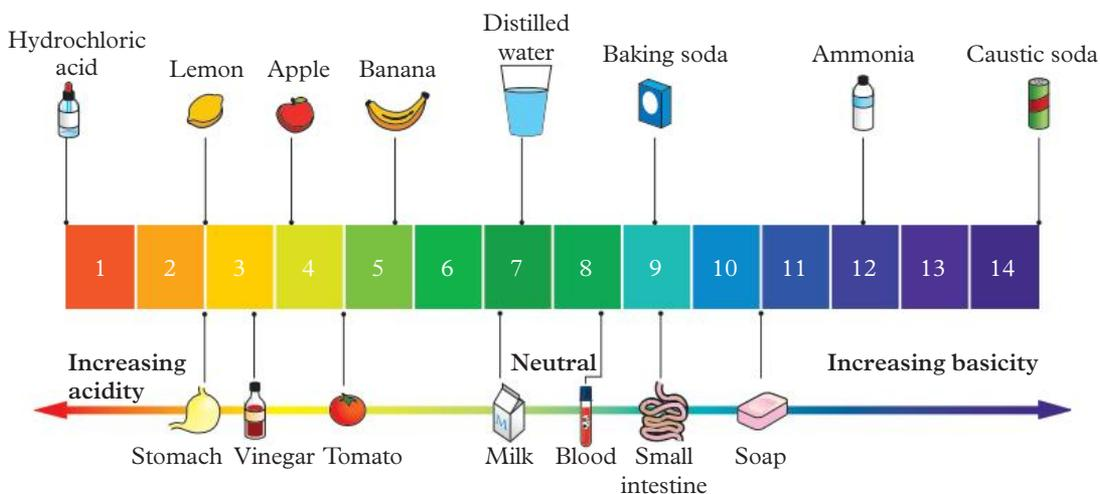

FIGURE 1 The pH scale with common examples
Figure 1 shows the scale of pH values with some everyday examples. When reading a pH scale, keep in mind that:
- 2 Explain whether your answer supports the approximate pH level for blood suggested in Figure 1.